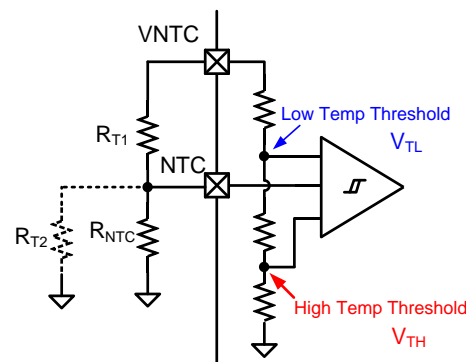

Figure 16: NTC Function Block
An internal resistor divider sets the low temperature threshold (V_{TL}) and high temperature threshold (V_{TH}) at 66.6% of V_{SYS} and 35% of V_{SYS}, respectively (see Figure 16). For a given NTC thermistor, select an appropriate R_{T1} and R_{T2} to set the NTC window with Equation (8) and Equation (9):